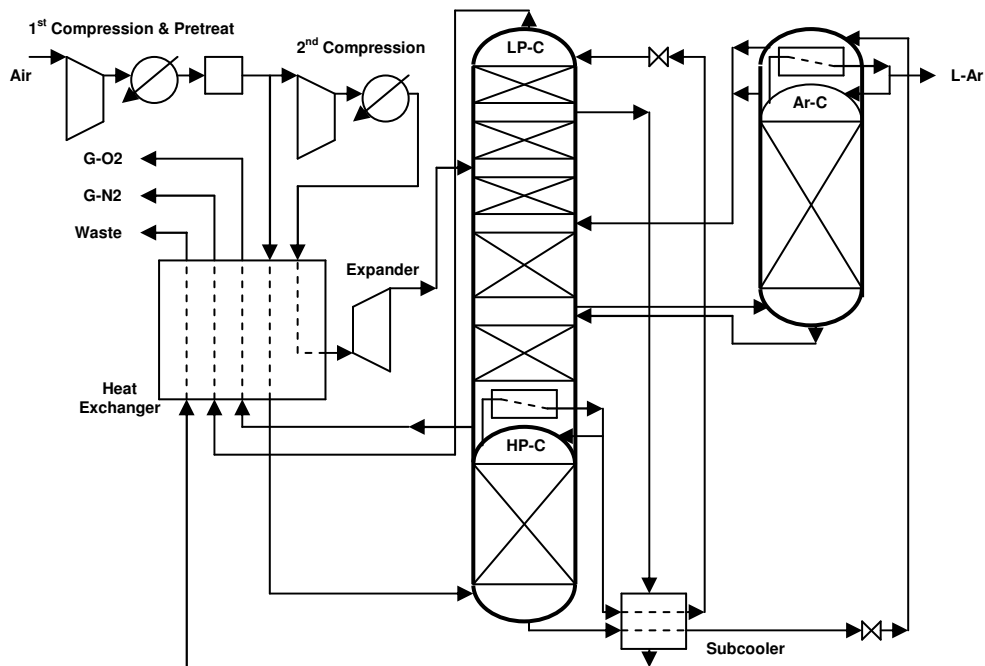

Figure 1: Flowsheet of air separation unit.
The cryogenic air separation process shown in Figure 1 involves the tight integration of heat exchangers and separation columns that is completely driven by the compression of the air at the inlet of the unit. The air inlet stream is cooled and partially liquefied against the leaving product streams. Nitrogen is then separated at a pressure of 6 bar in the first column and condensed against boiling oxygen at a lower pressure (around 1.2 bar). These two columns share the same column shell to minimize the temperature difference between the condensing nitrogen and evaporating oxygen. The liquid bottom product of the high pressure column is rich in oxygen and is reduced in pressure. The Joule-Thomson (JT) effect cools this rich liquid such that it can be used to run the condenser of a side rectifier that separates argon from oxygen. This side rectifier is fed with a vapor side draw from the low pressure column. The whole process requires additional cooling which can be obtained using an expander that feeds compressed air directly to the low pressure column. Thus, a certain part of the air cannot be separated but leaves the unit as a waste stream. Gaseous nitrogen and oxygen, and liquid argon are the products. With temperature differences in the heat exchangers of just a few degrees Kelvin; clearly there is a significant interaction in these interconnected columns when any of the manipulated variables are adjusted or when a disturbance affects one of the column controlled variables. Purities in nitrogen and argon are typically very high, with 1 ppm or less impurities. The oxygen product purity ranges from 97.5 to 99.5%.